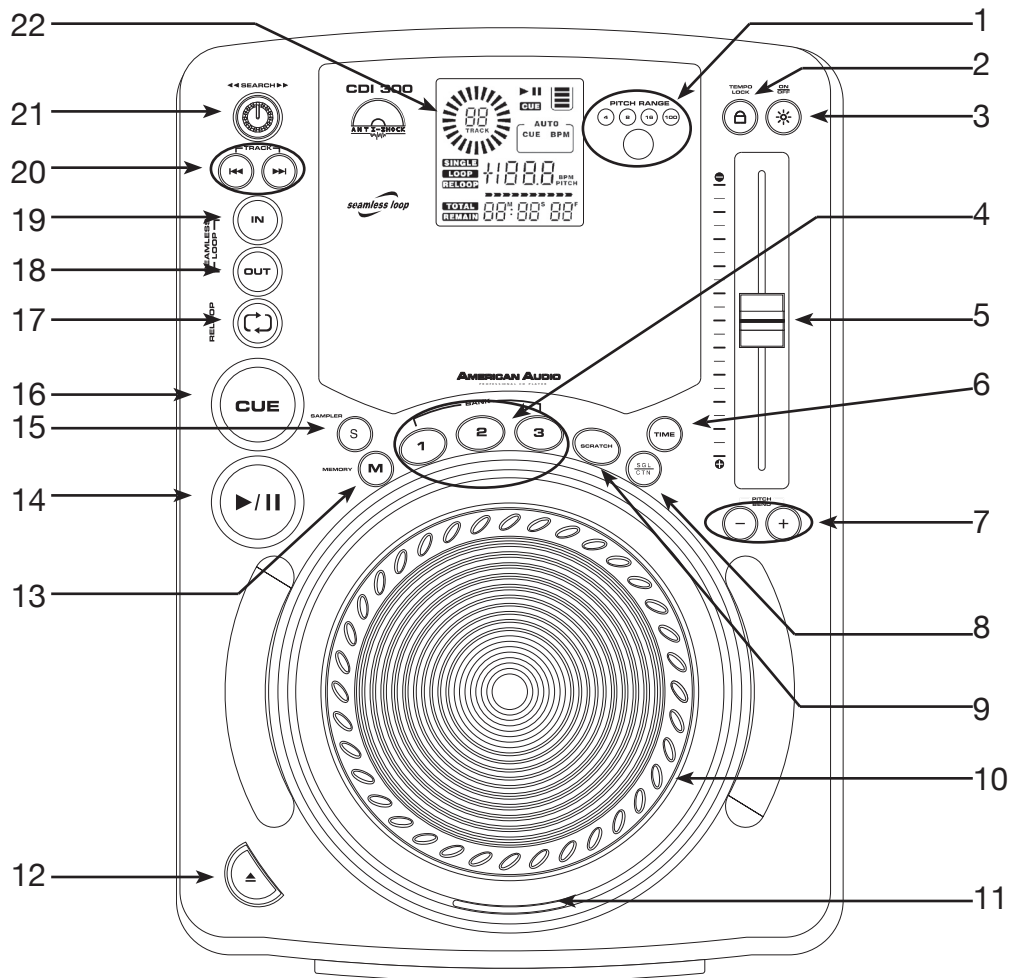

Figure 3
A. TOP UNIT CONTROLS (FIGURE 3)
3. BPM/PITCH ON/OFF BUTTON - This button is used to toggle between the *PITCH SLIDER* (5)